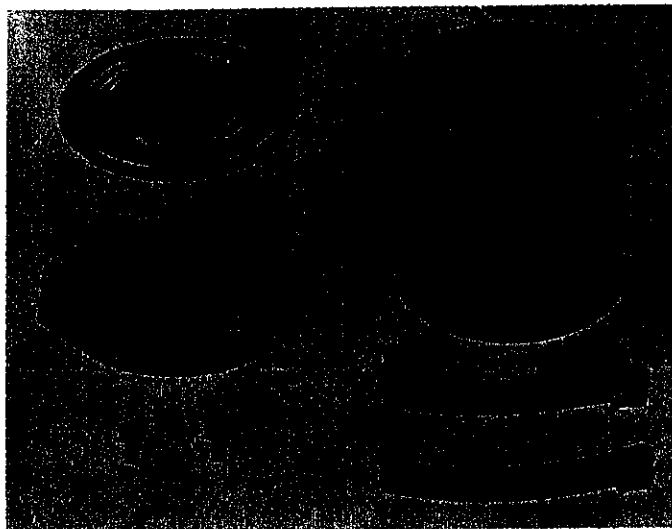

FIGURE 1. AIR CLEANER KIT
18. Install starter to engine. **NOTE:** Before assembling starter to engine, pull the centering pin, 13, Fig. 1, part way out of the starter hub with a pair of pliers. Use
care to avoid bending the pin. The purpose of this pin is to center the starter over the starter cup so that the friction shoe plates 4, Fig. 1, will contact the starter cup evenly and firmly. If the starter is not centered, slippage and wear will occur.
Several types of air cleaner kits are available for engines not previously equipped with an air cleaner. Kit number 3181-1 shown in Fig. 1 uses a paper element filter, often referred to as a "Skinner" element.